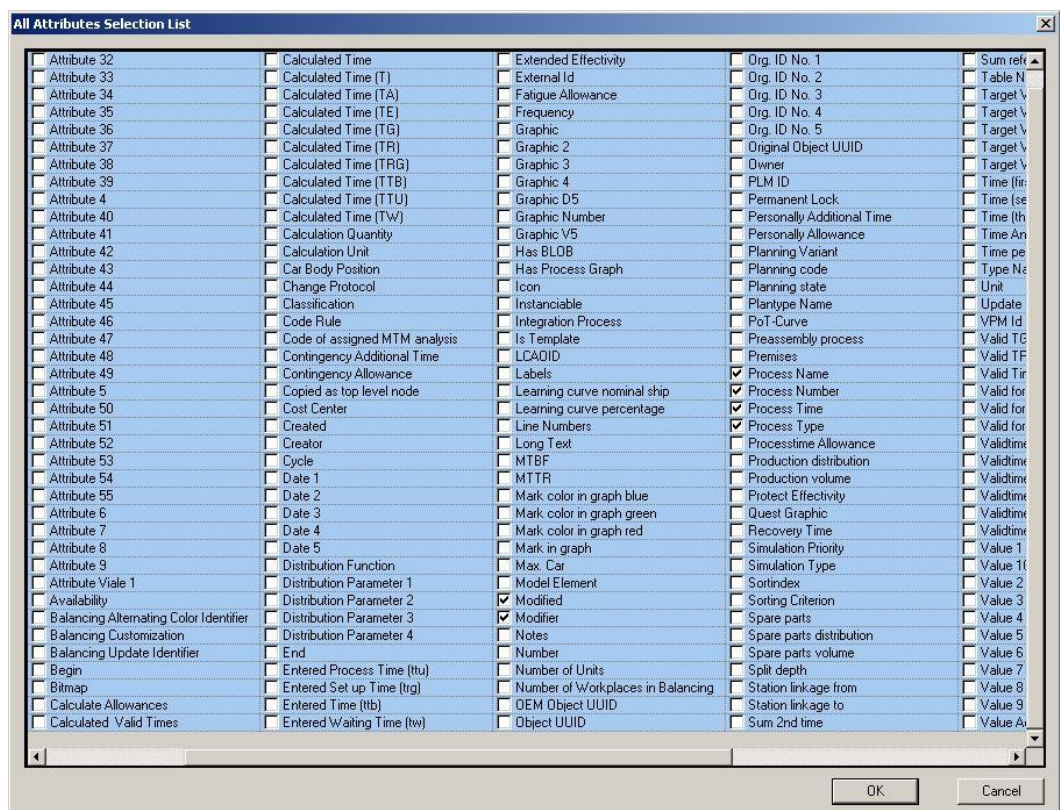

Figure 168: Window with all Attributes of the Plantype
- 7) If you select **Show all attributes selection list...**, all existing attributes of the plantypes are displayed in a window. If you select an attribute, it is shown for the profile. Please refer to the Figure 168.